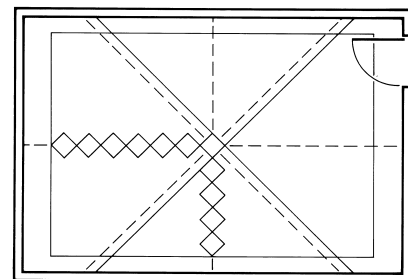

Fig. 26 - Adjusting chalk lines for a diagonal layout.
- Measure the distance between the last whole tile and the wall. If the distance in either row is less than one-fourth of the diagonal dimension of the tile (whole tile = 5 1/2" and a separated tile = 2 3/4"), adjust the starting point and snap a new chalk line (use the dimension for the tile being installed) away from the original chalk line (Fig. 26). This will provide a balanced layout with larger cut tile around the perimeter.